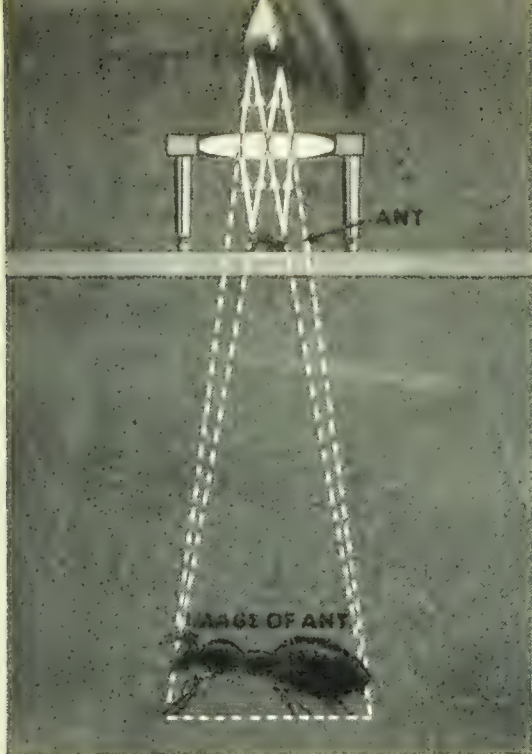
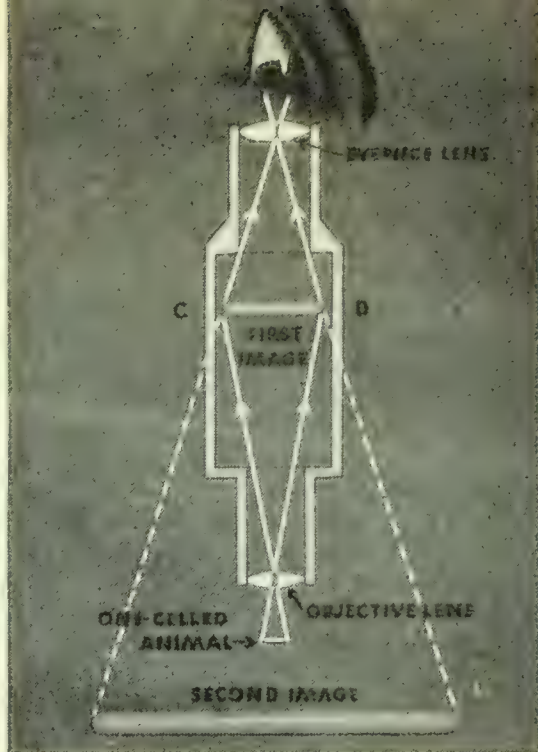

FIG. 477. How light travels through a simple magnifier
FIG. 478. How light rays travel through a compound microscope
HOW ARE LENSES USED IN OPTICAL INSTRUMENTS? Why microscopes magnify and telescopes and field-glasses make objects look nearer is too difficult to explain in this book. We can, however, explain how they are constructed and tell you a little about how they operate. First, let us examine a hand magnifier. It has a double-convex lens. If it is held close to an object, the object appears larger. If you study Figure 477, you can see how the light rays are bent. The rays are bent in when they pass through the lens. But our eyes see the rays as straight lines; therefore what we see is shown by the broken lines. In compound microscopes there are two lenses. Light from the object passes through the *objective lens* and comes to a focus at CD (Figure 478). There is no screen there, but if one were put in, you could see the image just as you did in Experiment 106. The eyepiece then magnifies this image just as it does in the simple microscope.
*Self-Testing Exercises.* 1. Make a drawing showing how a simple microscope makes a pin look larger. Use Figure 477 as a guide.
2. Make a drawing that will show how a compound microscope makes a pin look larger. Use Figure 478 as a guide to follow.